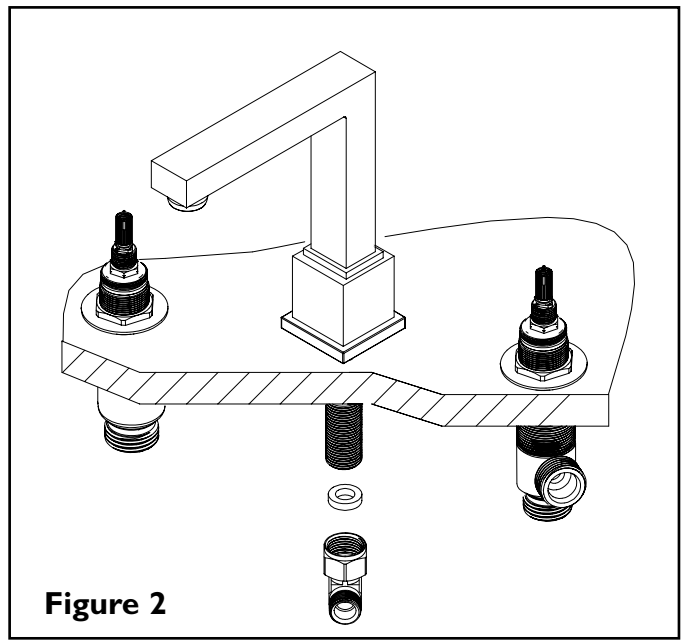

Figure 2
3. Place washer into top of 3-way tee. Thread 3-way tee with washer up against bottom of the spout shank. See Fig. 2